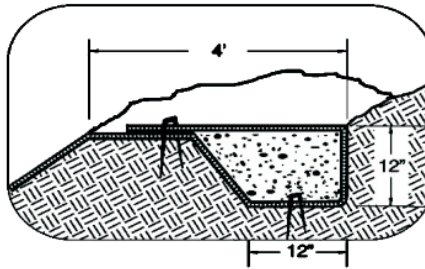

Fig. 2 Initial anchor trench for slopes
- Step 1:** Begin at the top of the slope and anchor blankets in a 300mm deep and 300mm wide initial anchor trench (see Fig. 2) and anchor with pins at 500mm spacing.